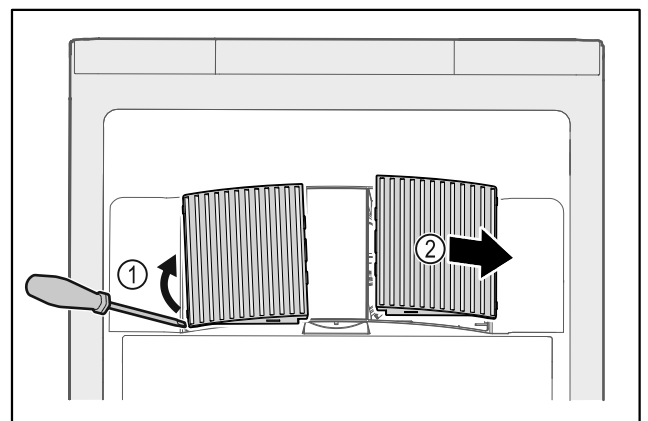

Fig. 163
- ▶ Carefully lever out fan covers from the side Fig. 163 (1) and remove towards the front Fig. 163 (2).